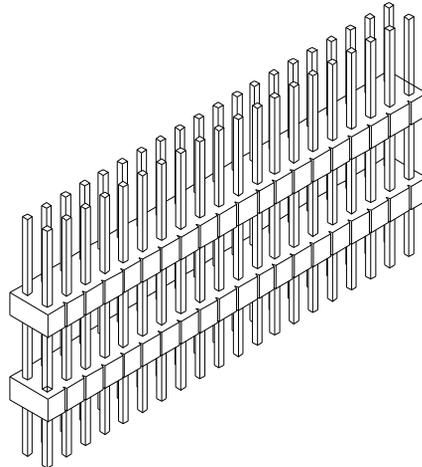

FIG. 34 40 PIN BOARD STACKER
Step 1. Plug the 40 pin board stacker into the J11 header on the DeviceNet board. (See Figs. 34 & 35)